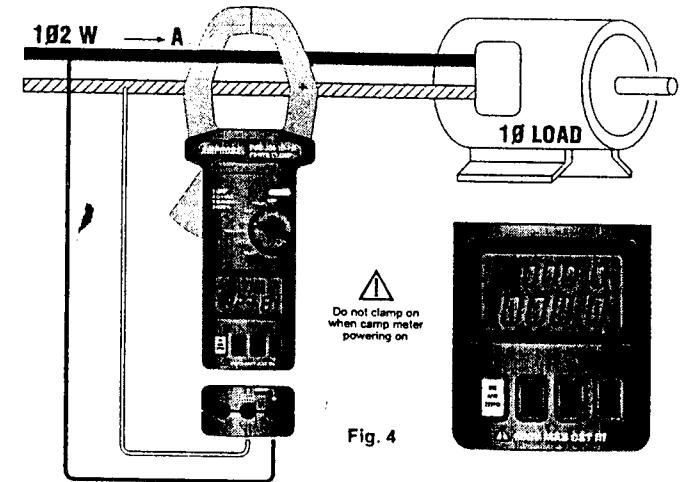

Fig. 4
1. Set the rotary switch at VA (refer to figure 4).